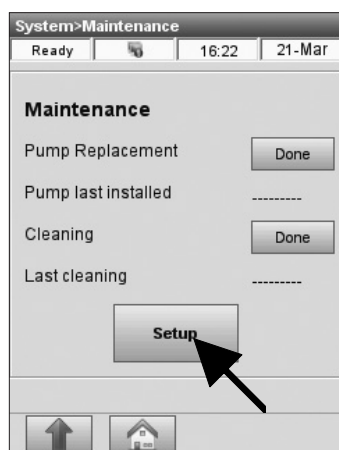

Fig. 7-18 Maintenance Setup
2. In the **<Maintenance>** menu (Fig. 7-18), press **<Setup>**.
4. After you replace the peristaltic pump, go to the **<Maintenance>** screen (Fig. 7-18) and press **Done** next to **<Pump Replacement>**.